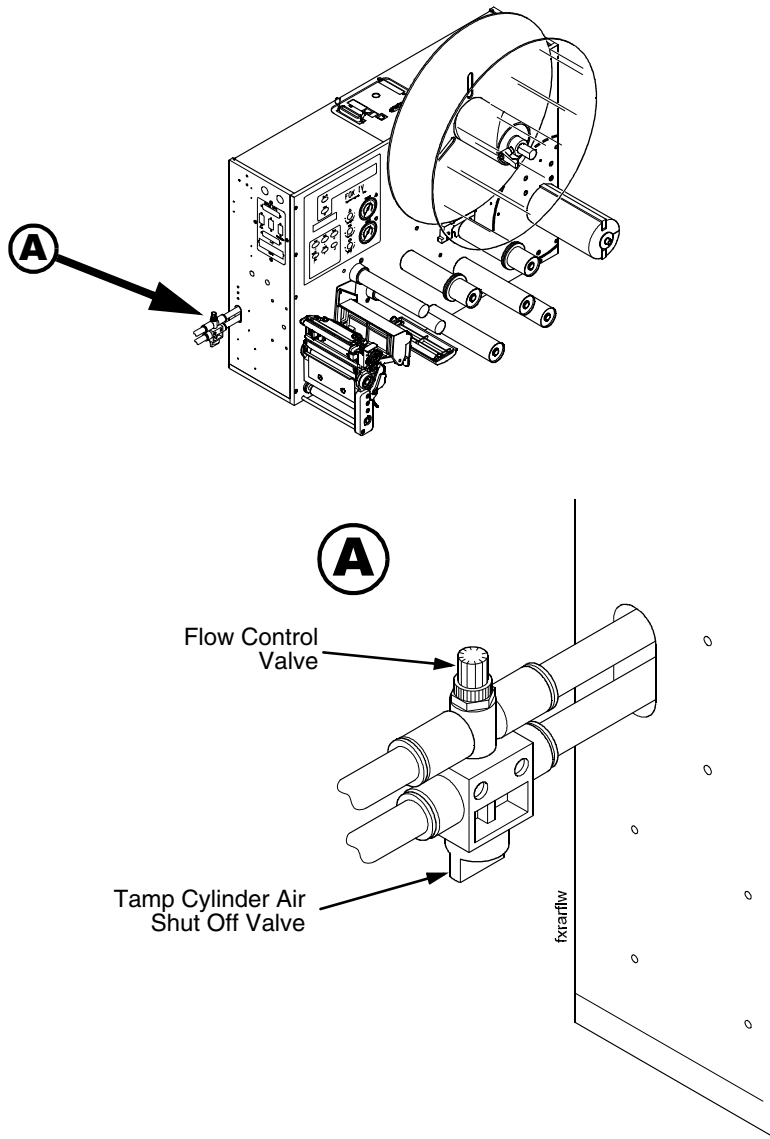

Figure 28. Return Speed Control Valve
2. Use the flow control valve (located on the air cylinder) to adjust the speed of the return stroke. (Figure 28.) Increase the speed by rotating the valve counterclockwise and decrease the speed by rotating the valve clockwise.